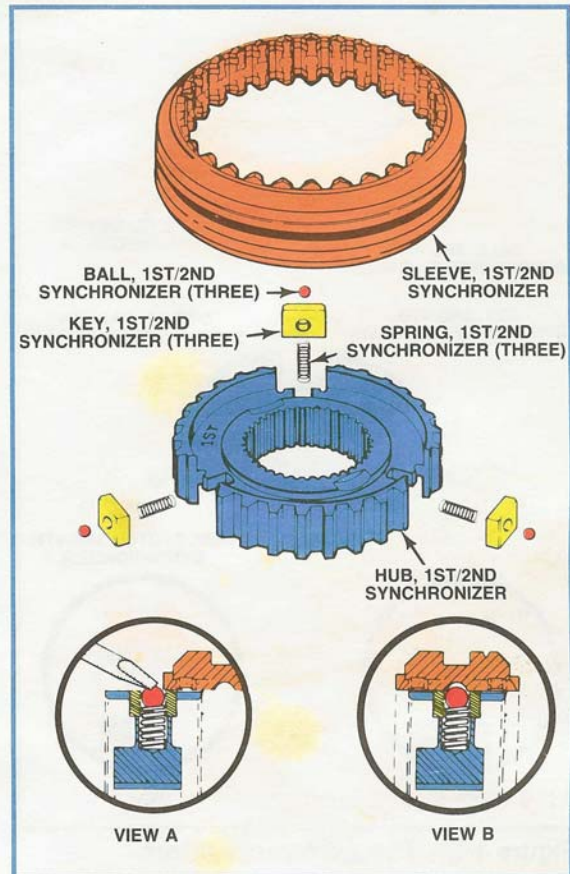

Figure 1-50, The 1-2 Synchronizer.
- 1st and 2nd speeds (Figure 1-50)